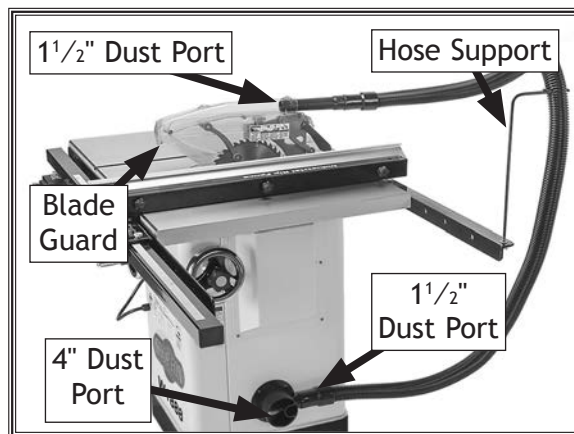

Figure 34. Dust hose attached to saw, hose support, and blade guard dust port.
32. Slide one adapter onto 1¹/₂" dust port until it fits snugly (see **Figure 34**).
33. Attach dust hose to dust hose support then insert dust port into rear of blade guard assembly (see **Figure 34**).